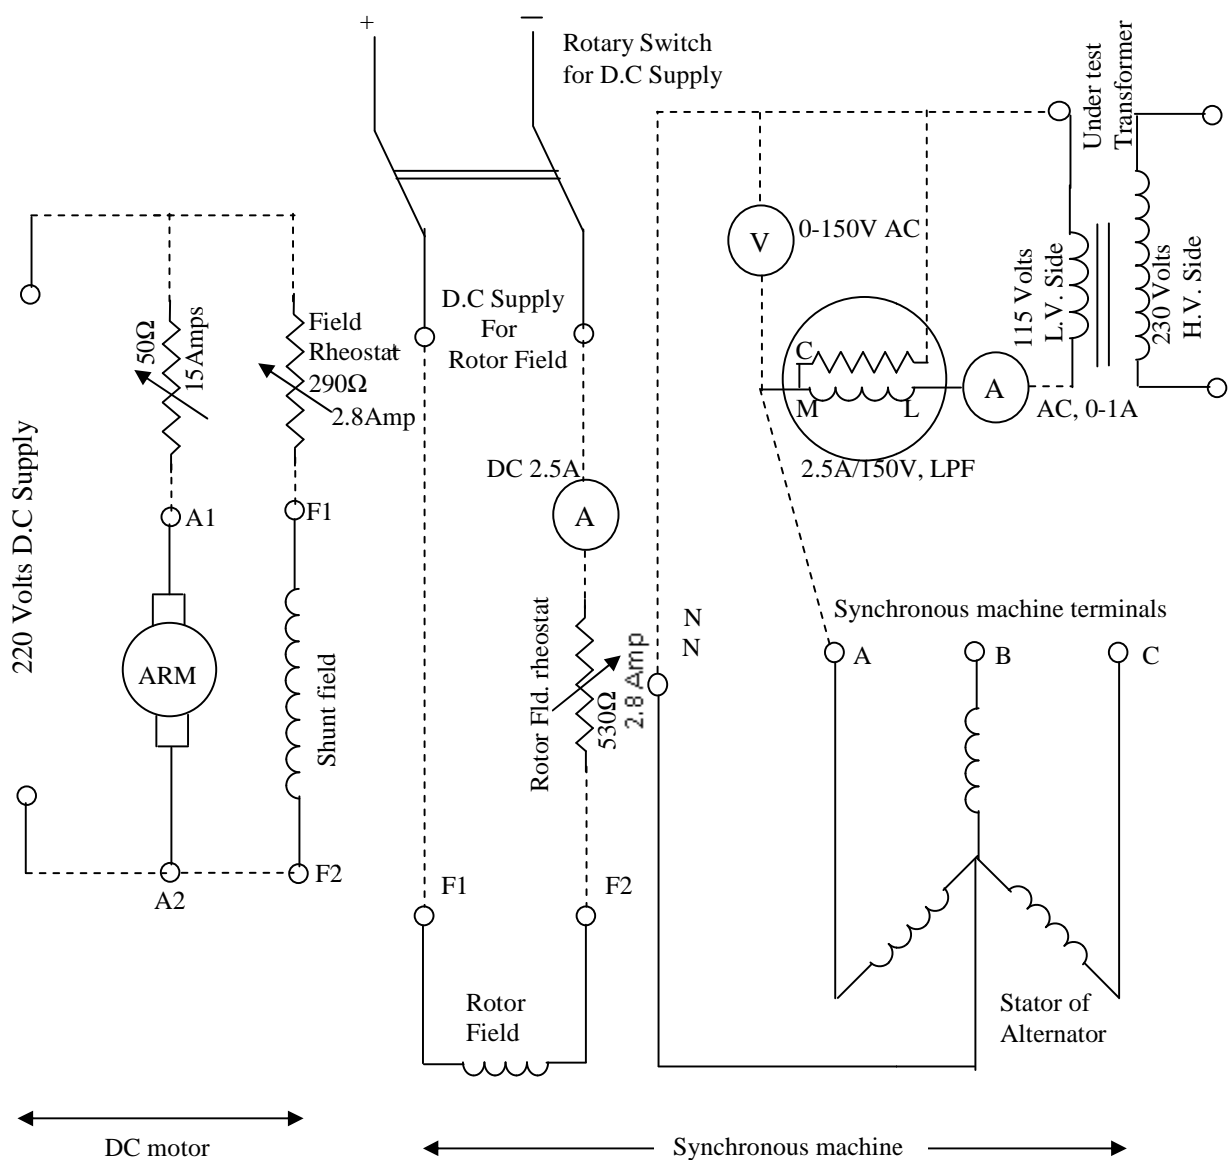

FIG 1.1B Circuit diagram for separation of losses.
1. Draw the circuit diagram with the suitable ranges of the meters. Take the help of the circuit diagram shown in Fig 1.1B. Make the connections according to your circuit diagram, as shown by dotted lines. For separation of losses a variable frequency and variable voltage source is needed for which an alternator coupled with a D.C. shunt